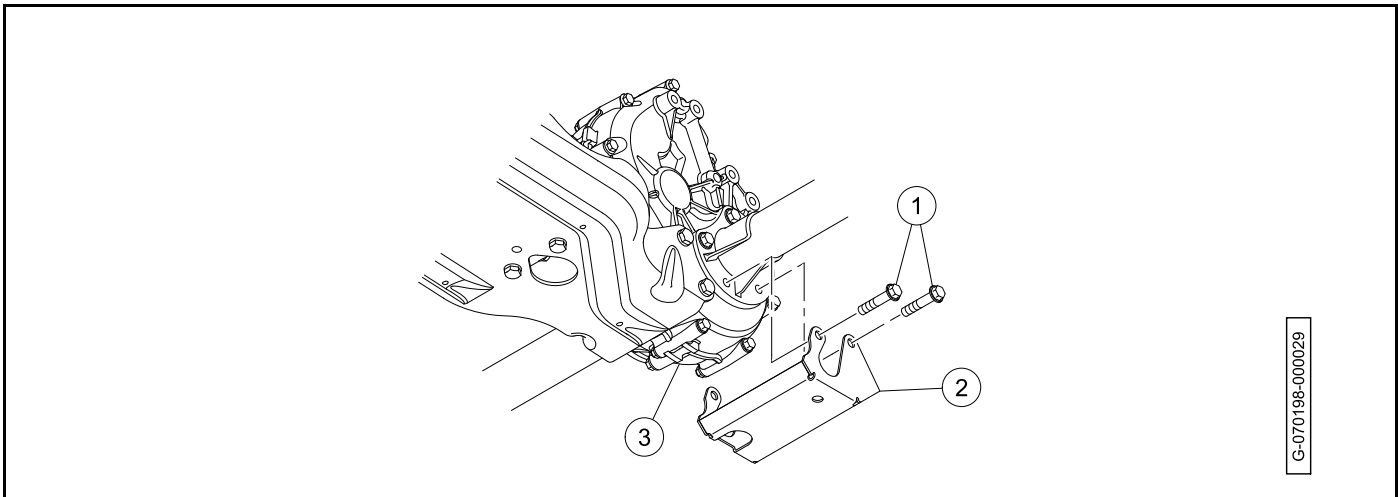

Figure 18-5 Differential Guard Removal
2. Remove the four bolts (1) securing the differential guard (2) to the transaxle (3) (Figure 18-5, Page 18-6).